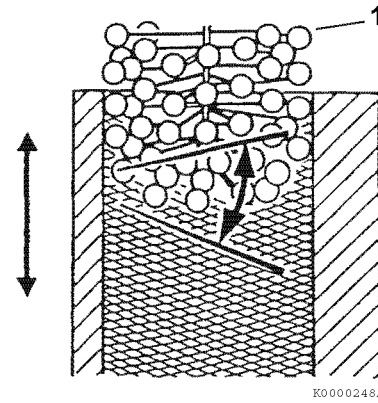

Figure 6-83
Note: When honing a cylinder, with either a ridged hone or a ball hone (Figure 6-83, (1)), move the rotating hone up and down in the cylinder bore to accomplish a 30° to 40° crosshatch pattern (Figure 6-83). This will provide the ideal surface for the proper seating of new piston rings.